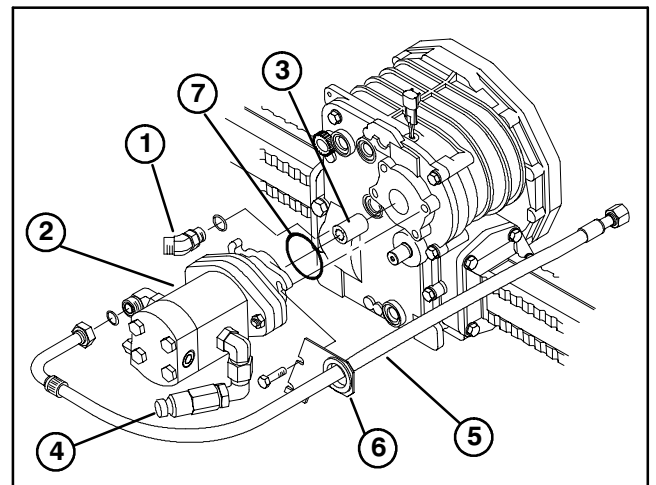
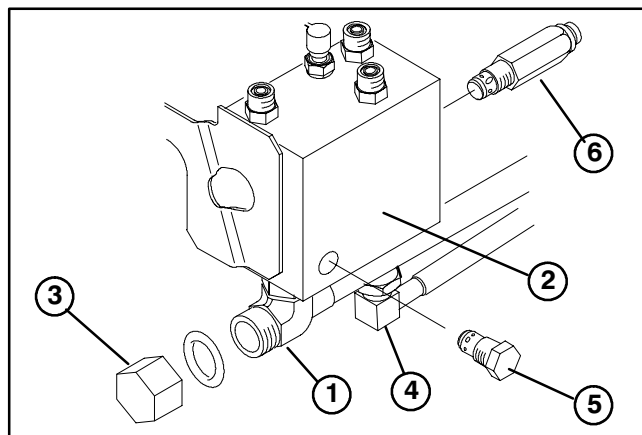

Figure 2
Figure 3
3. Thread a 45° fitting into front of axle (Fig. 2). Tighten fitting until nut contacts axle housing, then, back out until fitting is orientated 45° toward the right side of traction unit. Tighten fitting nut.
7. Thread (4) new M10 x 30mm bolts into axle until bolt heads are approximately 1/2" from axle surface.
9. Insert hose bracket between bolt heads and pump flanges (Fig. 2).
1. Thoroughly clean hydraulic manifold (Fig. 3).
4. Connect pump supply hose (Fig. 2) to 90° fitting on right side of pump (Fig. 2) and to "T" fitting on bottom of manifold (Fig. 3). Straight end of hose to be routed through grommet on hose bracket, between main axle housing and left lift arm (above left axle shaft housing).
1. Remove plug from "CV" port on left side of hydraulic manifold (Fig. 3).
3. Remove plug from "R1" port on rear of hydraulic manifold (Fig. 3).
2. Position a drain pan under 90° fitting (Fig. 3) on bottom of hydraulic manifold.
1. Loosen (4) M10 x 30mm bolts securing pump to axle and remove hose bracket from bolt.
2. Position a drain pan under hydraulic manifold (Fig. 3) and disconnect pump supply hose from "T" fitting on bottom of manifold.
6. Re-install cover plate to axle with (4) M10 x 25mm bolts.